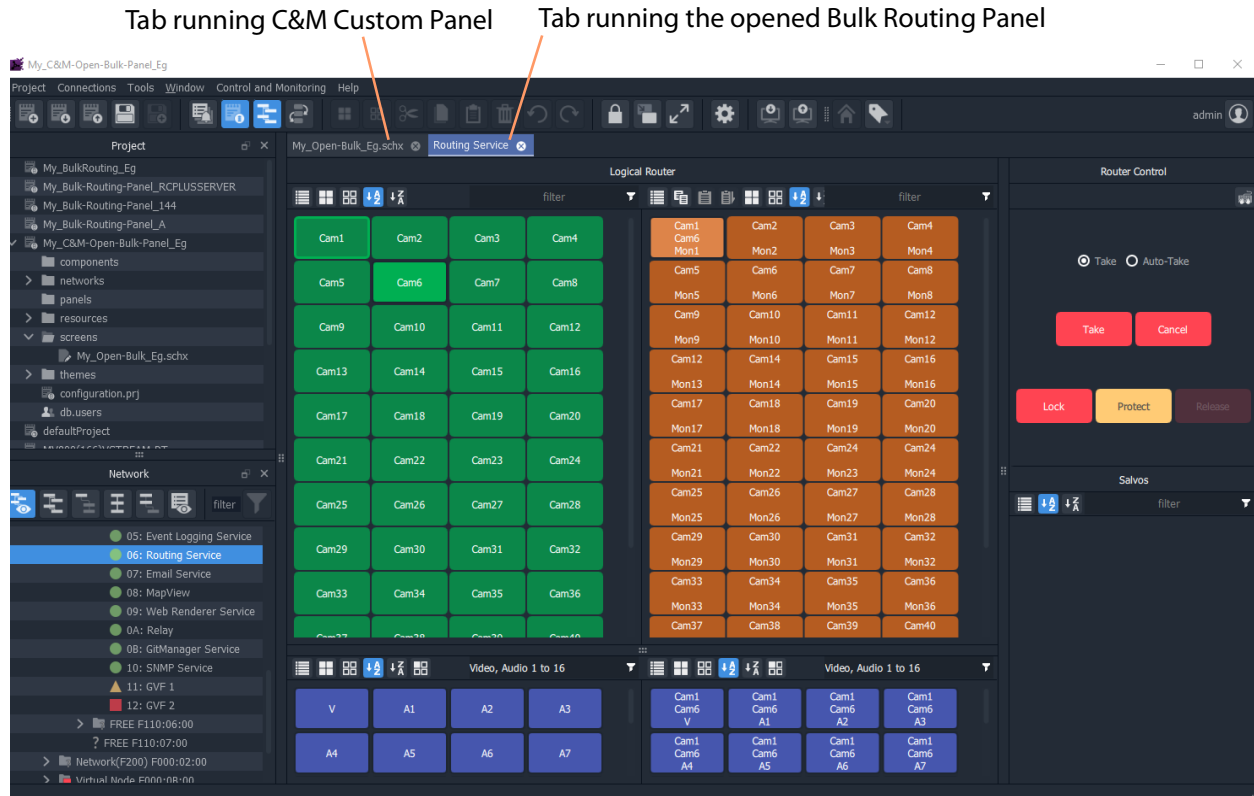

Fig. 11-96: Bulk Routing Panel Opened in a Tab
- 2 Click on the **Button** widget to open a new tab containing an Bulk Routing Panel. See Figure 11-96.